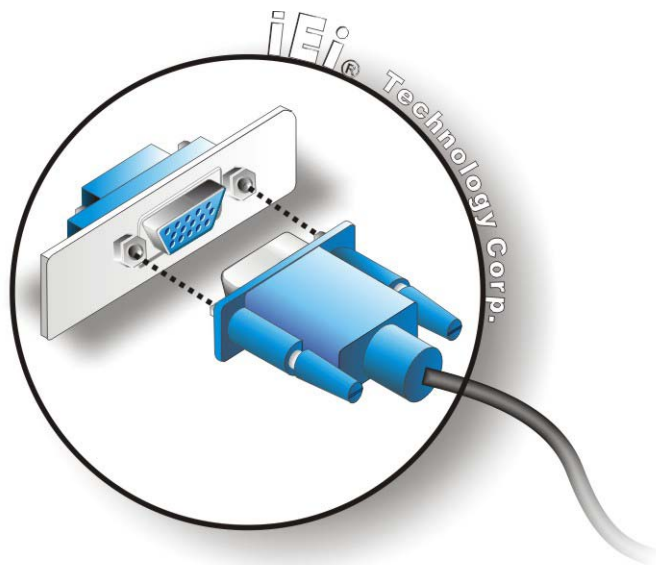

Figure 3-35: VGA Connector
- Step 3: Insert the VGA connector** Once the connectors are properly aligned with the insert the male connector from the VGA screen into the female connector on the UPC-V315-NM70. See **Figure 3-35**.